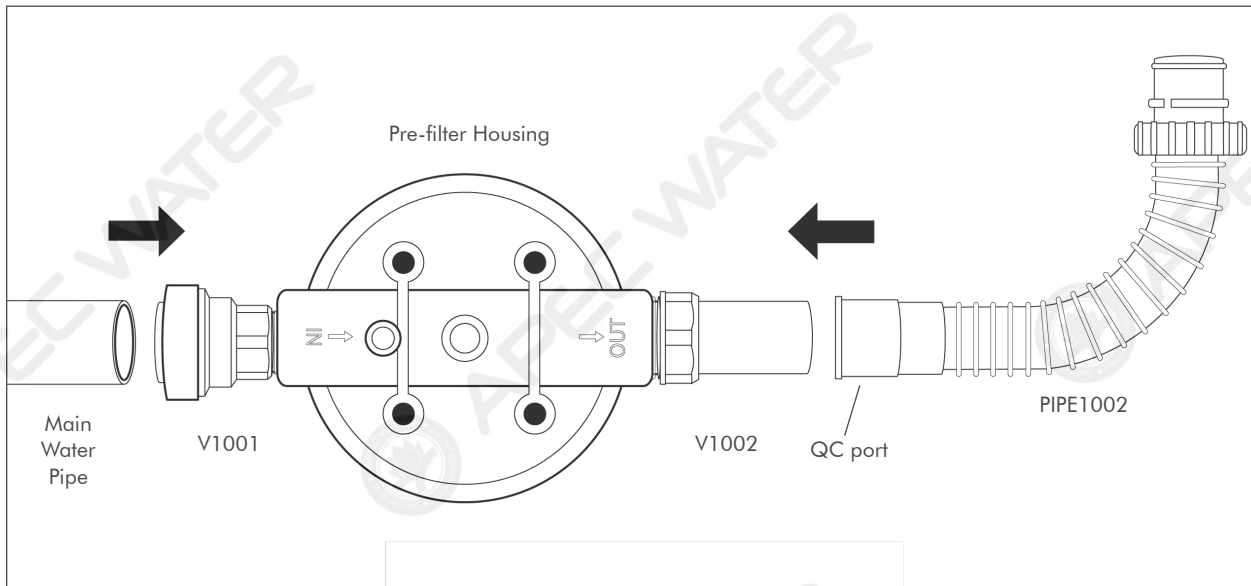

Fig.4
Step 1. Connect the main water pipe into the Pre-filter Housing INLET securely just by pushing the pipe into V1001. After inserting pipe, please slightly pull on the pipe to ensure the water pipe connection is completely secured. See **Fig.4**.
Step 2. Push PIPE1002 Quick Connect port into the Pre-filter Housing OUTLET of V1002, please slightly pull on the flexible pipe to ensure the flexible pipe connection is completely secured. See **Fig.4**.